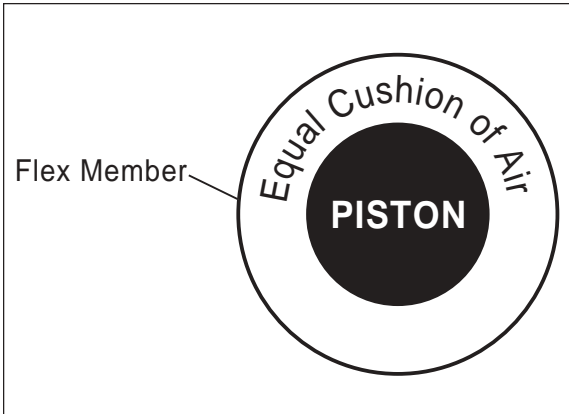

Figure 16
5. Keep at least 6" of clearance between the air line and heat sources, such as the exhaust pipes, muffler, or catalytic converter. Avoid sharp bends and edges. Leave at least 2" of slack when securing the air lines to allow for any movement that might pull on the air line (Figure 16).
1. **IMPORTANT:** With the bottom of the air spring still loose, inflate the air spring to approximately 10 p.s.i. Use the slotted adjustment in the lower bracket to correctly align the air spring between the upper and lower bracket. This can be accomplished by tapping it inboard or outboard for proper alignment. There should be a symmetrical cushion of air around the base of the air spring when correctly positioned (Figure 16).